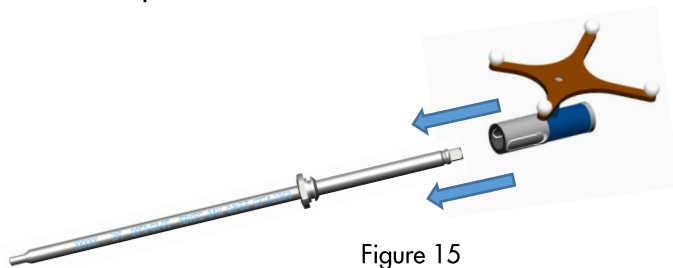

Figure 15
- Secure a Tracker on the Precision Spine Simulated 5.5/6.0 MAS Driver instrument, 70-SD-0700 (Figure 15).